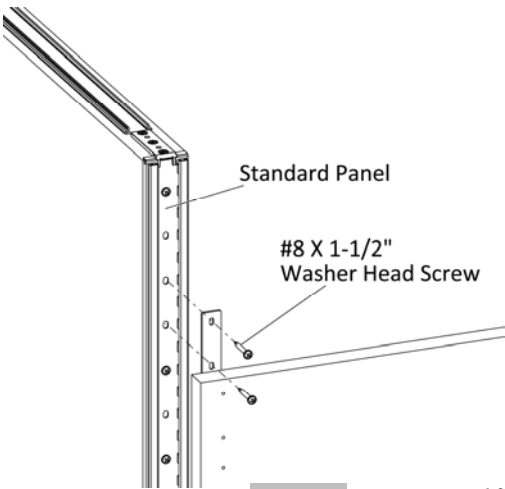

Figure 2
- Position the standard panel and the gallery panel to create a 90-degree connection, (Figure 2).